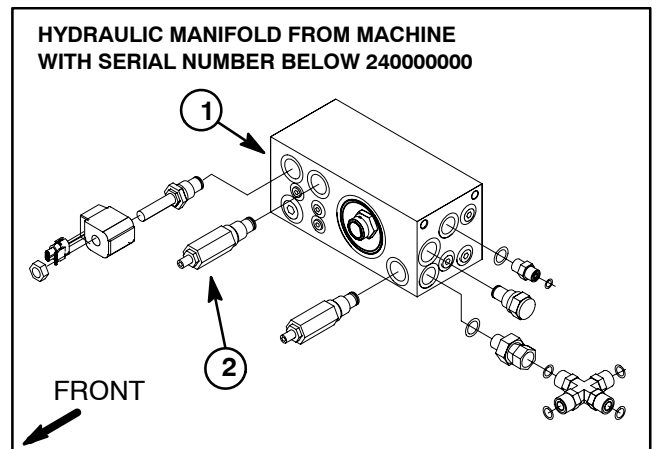

Figure 18
10. If relief pressure specification is not met, inspect, repair or adjust charge relief valve (R1) in hydraulic control manifold (Figs. 18 and 19). Also, consider air in the hydraulic system, a leaking hydraulic manifold check valve (CV1) or worn wheel motors.